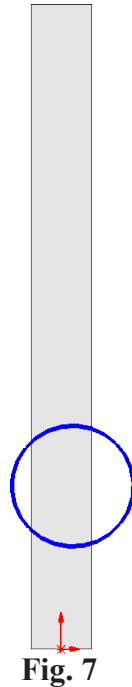

Fig. 7
Step 4. Sketch a circle above the Origin , **Fig. 7**.